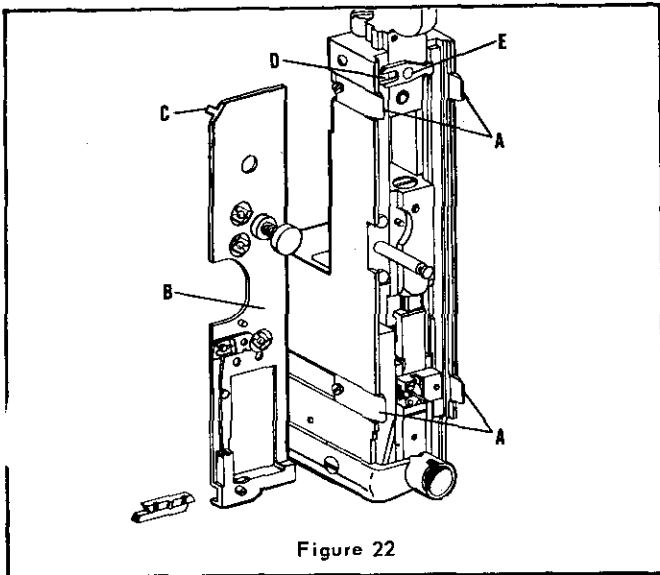

Figure 22
**NOTE: (Figure 22)**
7. Loosen the four face plate retaining clips (Index A, Figure 22).
8. Lift the face plate (Index B, Figure 22).